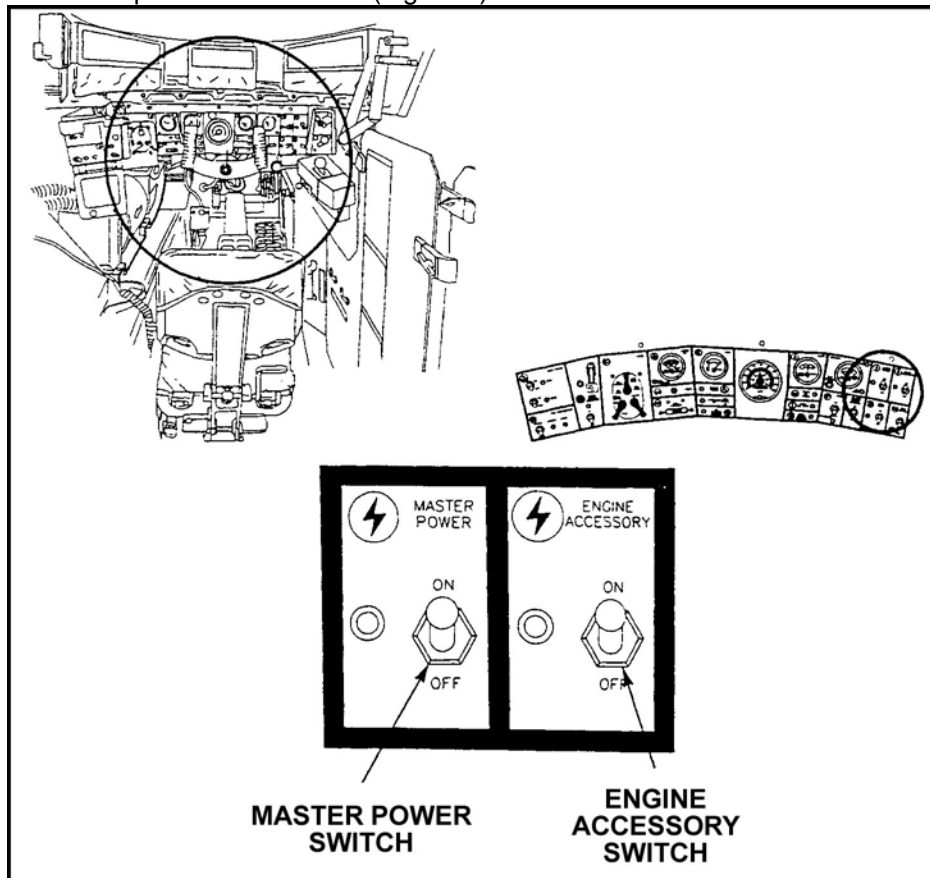

Figure 3. Master power and engine accessory switch.
- c. Move master power switch to ON (Figure 3).